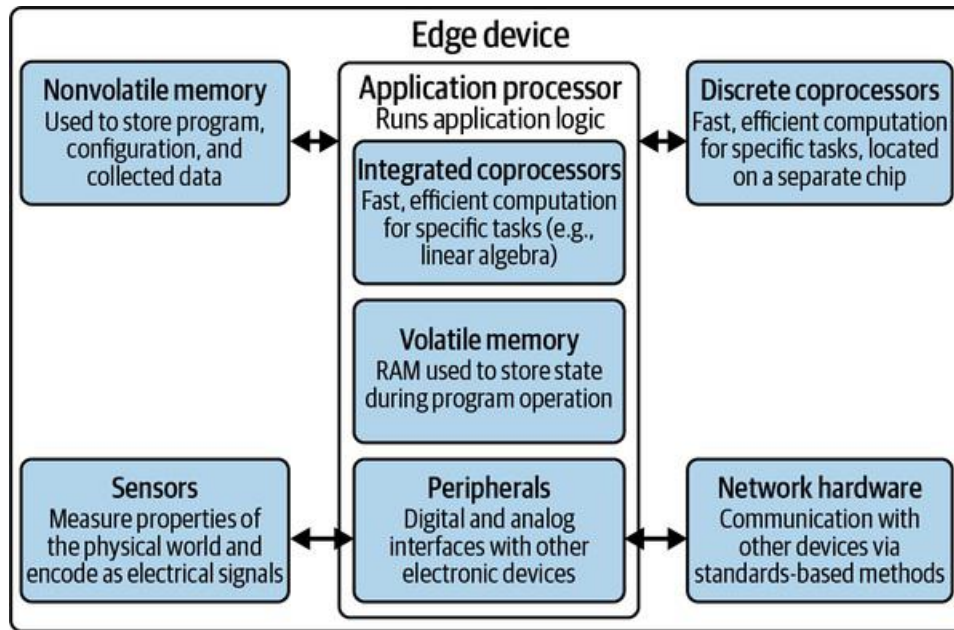

Figure 3-5. Architecture of an edge device
**Figure 3-5** shows the typical hardware architecture of an edge device.
The application processor is connected to *nonvolatile memory*, commonly known as ROM (read-only memory) or flash,2 which can similarly be located either on die or off die (in Figure 3-5 it is shown off die). Nonvolatile memory is used to store things that don't often change and need to be preserved when the system is shut down. This might include software programs, user configuration, and machine learning models. It's slow to read and extremely slow to write.